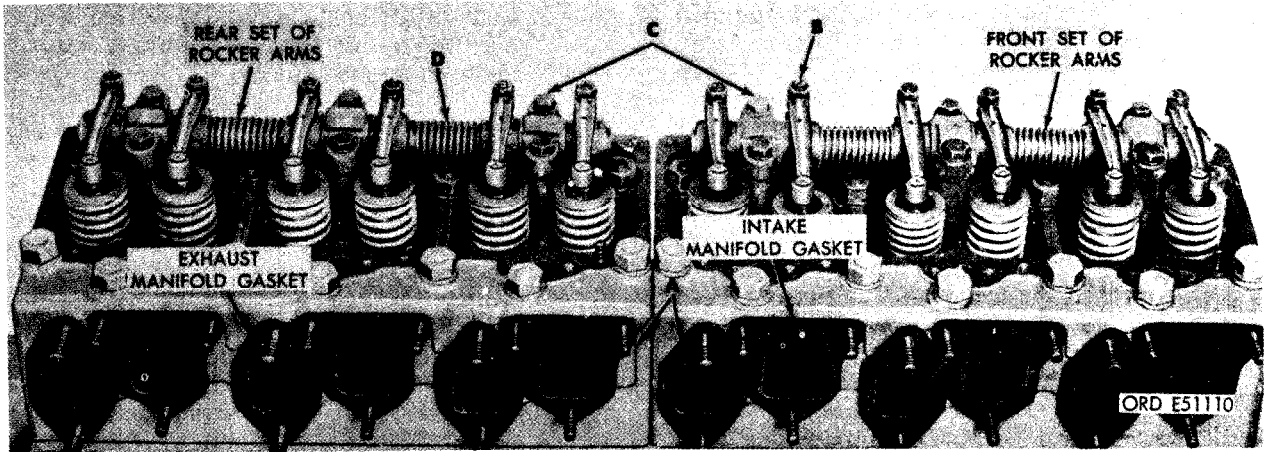

FIGURE 268. REMOVING OR INSTALLING INTAKE MANIFOLD GASKET AND ROCKER ARMS.
- (1) Figure 268. (A) Remove and discard intake and exhaust manifold gaskets. (B) Loosen rocker arm adjusting screw lock nuts and turn adjusting screws to release valve spring tension before removing cap screws. (C) Remove twelve  $3/8 \times 2-1/2$  cap screws and  $3/8$ -inch lock washers securing front and rear rocker arms to front and rear cylinder head assemblies. (D) Remove front and rear sets of rocker arms.